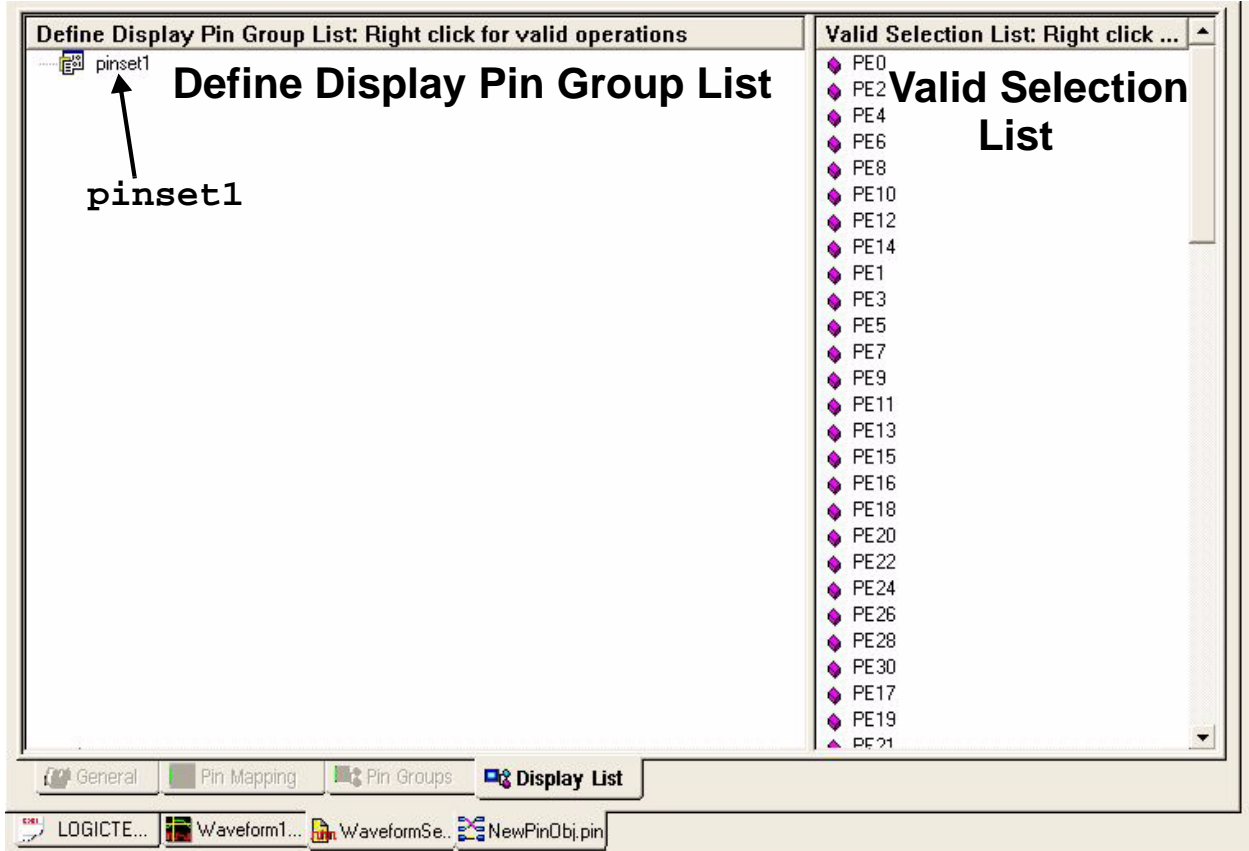

Figure 6-62. Pin Selection List
- Selecting the `Custom` button displays a window with a list of the pin groups defined in the test program in the Valid Selection List (panel on the right of Figure 6-62).